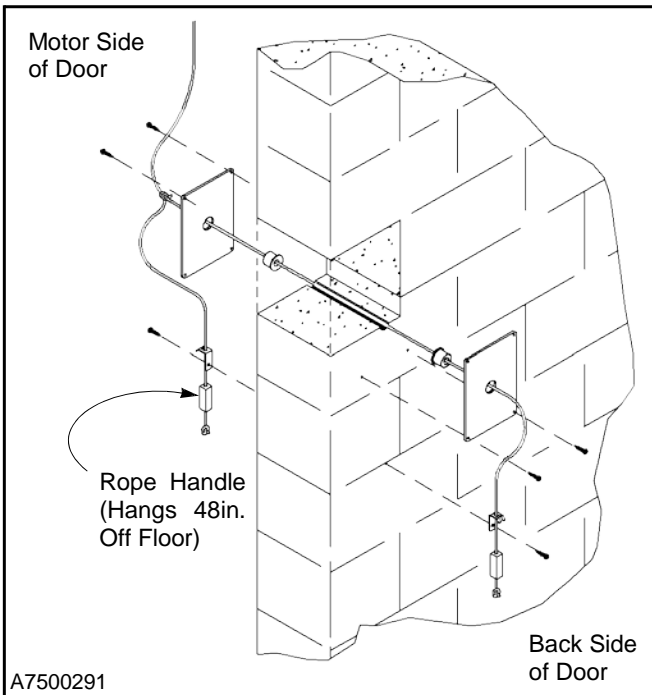

Figure 38
2. Feed the free end of the rope through a rope handle. Then tie a knot in the rope so that the end of the rope and handle hang about 48in. off the floor. (See Figure 38.)
3. Attach a crimp to the rope, just below the knot to prevent the rope from fraying. Then cut the excess rope off just below the crimp. The crimp is located in the small parts carton. (See Figure 38.)